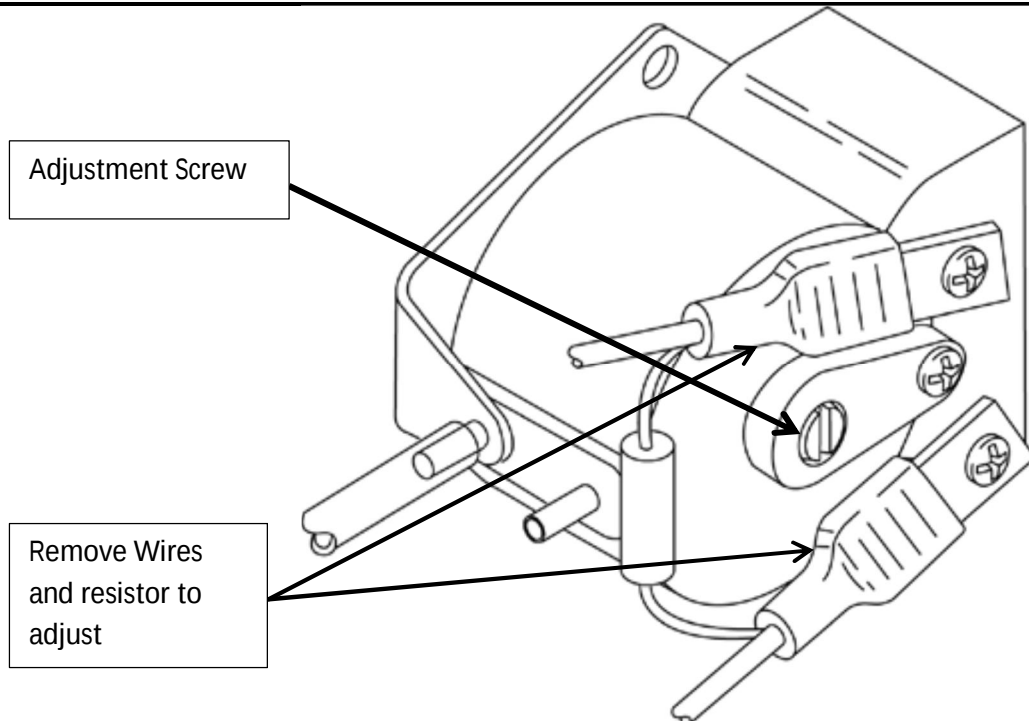

Figure 1
2. The reversing edge switch is a normally-open contact. The PVC hose is on the lower air input post. To adjust the switch, first remove the wires and resistor from the contact terminals and attach an ohmmeter across the two terminals. (See Figure 1.)
3. Turn the adjustment screw, located on the face of the switch, clockwise or counterclockwise until continuity is achieved. Then turn the screw two full turns counterclockwise. The ohmmeter should no longer show continuity. Turning the screw counter clock- wise decreases sensitivity. Turning the screw clock- wise increases sensitivity. (See Figure 1.)